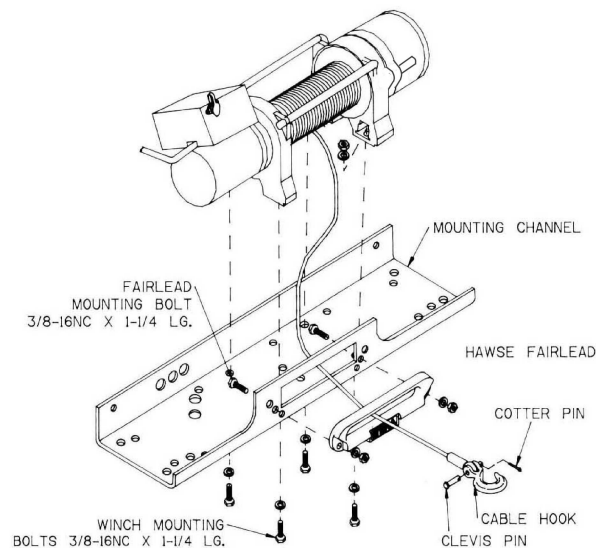

FIGURE 3
Attach fairlead to channel using hardware furnished with winch (see FIGURE 3). Attach winch to channel. Place (4) flatwashers and nuts into pockets of winch mounting feet and thread capscrews with lockwashers through mounting holes in channel and into hardware in winch feet.
Place end of drum cable through fairlead and attach cable hook. Use clevis pin and cotter pin (see FIGURE 3).